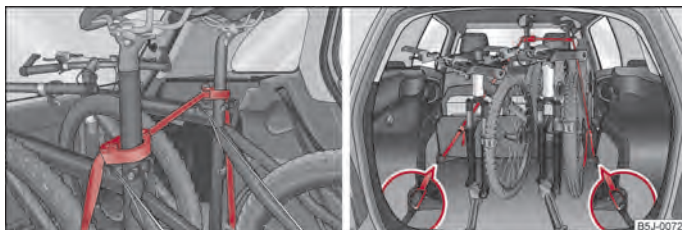

Fig. 59 Securing the bicycles with clamps/securing the bicycles with a strap
- Position the clamp with the rubber part to the front (in direction of travel) as far as possible below the saddle support and close the clamp ⇒ fig. 59.
- When transporting two bicycles tension the strap ⇒ fig. 59 between the saddles, by pushing the bicycles apart.